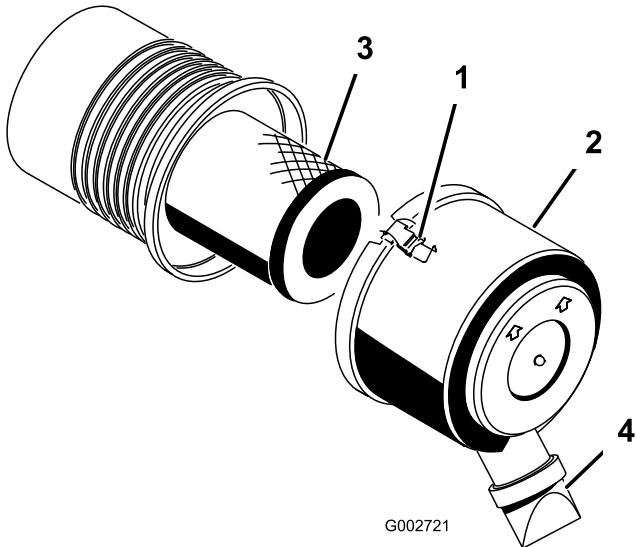

Figure 26
1. Release the latches securing the air cleaner cover to the air cleaner body (Figure 26).